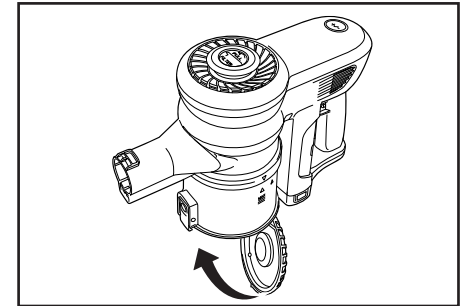

Fig. 2
5. When the dust cup is empty of debris, firmly push the base onto the dust cup until it clicks and is fully latched (Fig. 2).